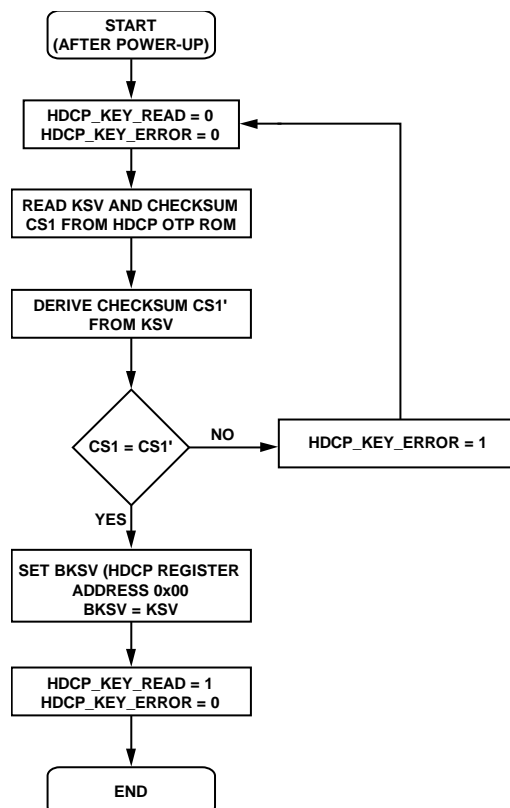

Figure 11. HDCP ROM Access After Power-Up
- After a power up, the ADV7619 reads the KSV from the internal HDCP ROM (refer to Figure 11).